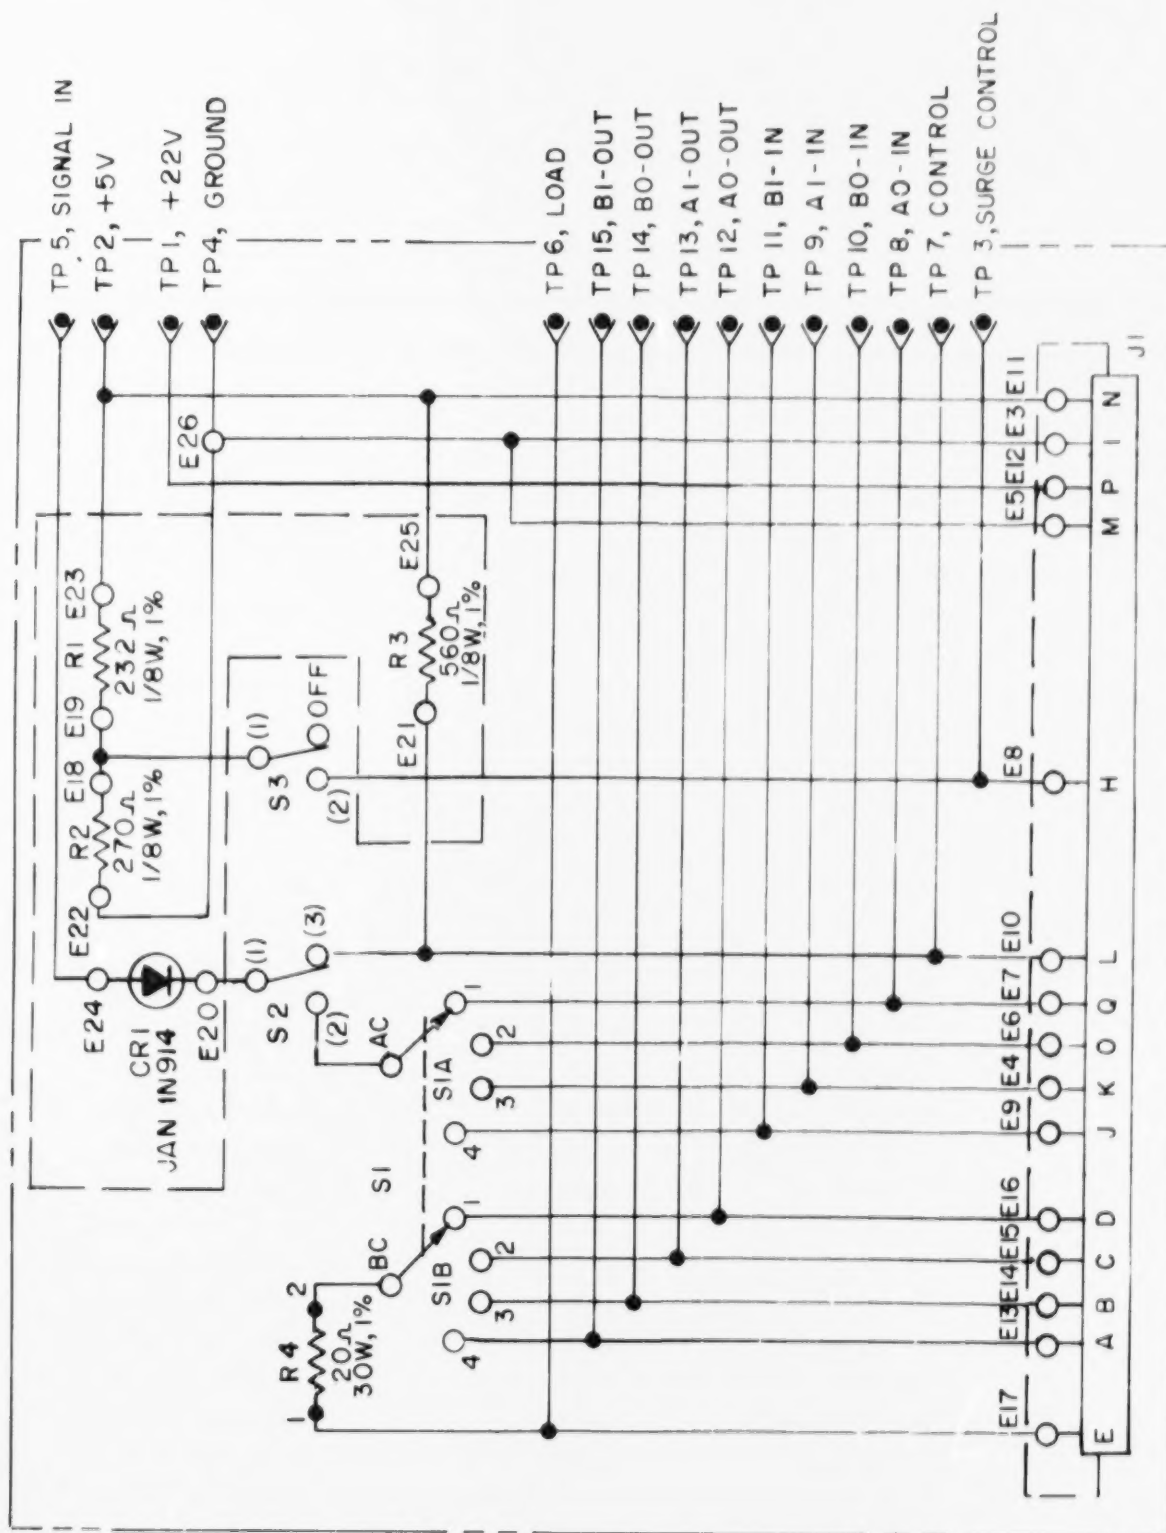

Figure 6-43. LINE FEED CURRENT CONTROL TEST FIXTURE SCHEMATIC DIAGRAM.
E. LINE FEED/CURRENT CONTROL TEST FIXTURE TEST PROCEDURES (fig. 6-43)